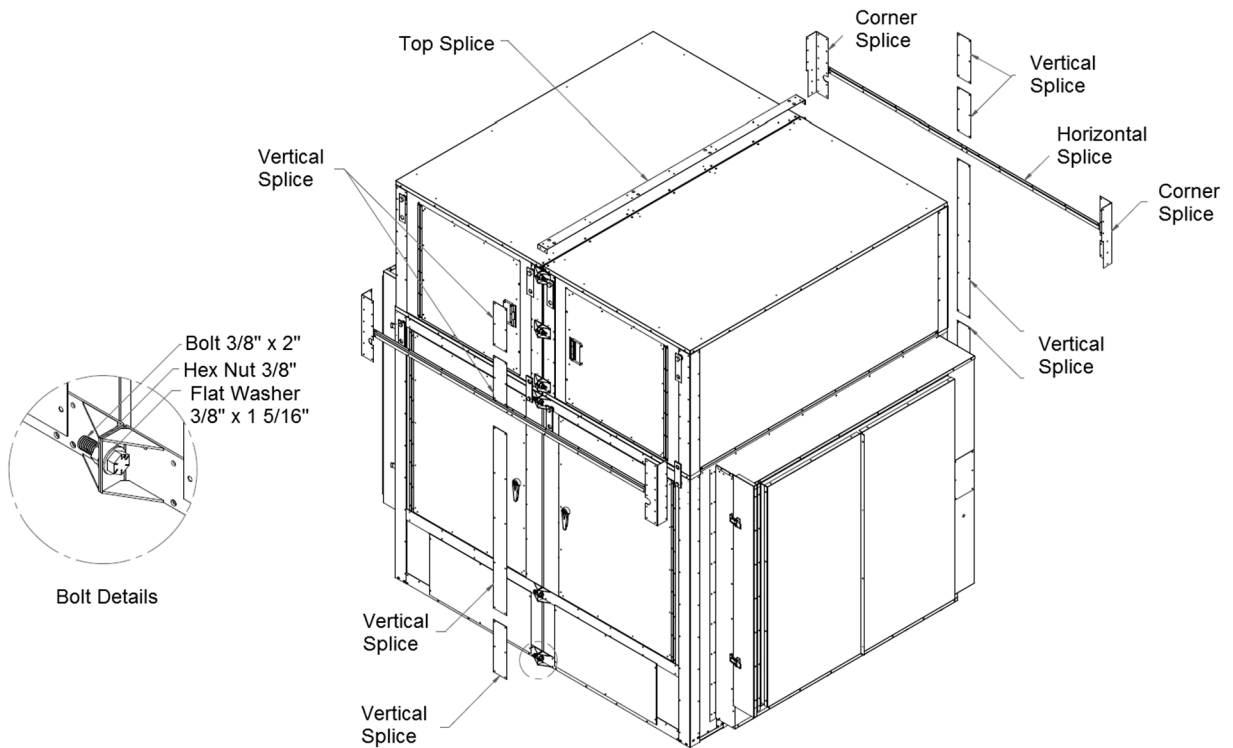
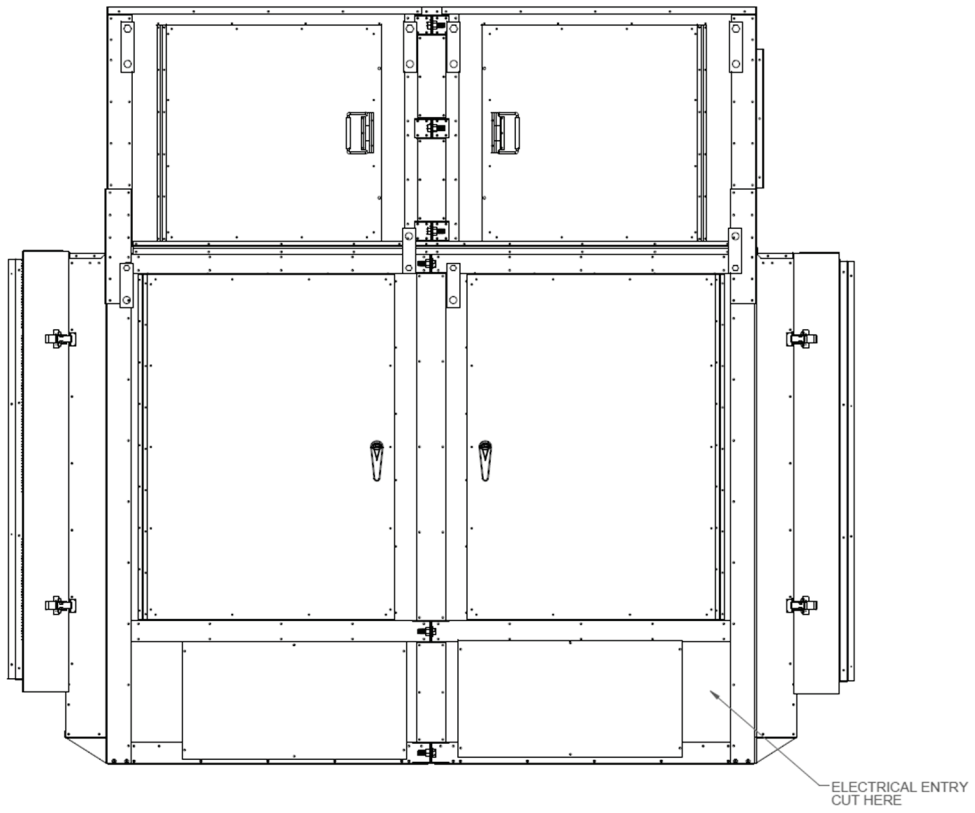

Figure 9 - Dual Unit Assembly Details
Figure 10 - Dual unit with splices after being bolted together.
to secure the coil sections together. See Figure 9.
5. For dual units, align the bolt holes of the fan sections, if they are shipped separated. Fan service access doors of each section should be on the same side of the complete unit. A crow-bar or similar tool can be used to line up the sections. Factory provided bolts can then be used to secure the fan sections together. See Figure 9.
6. For dual units, install horizontal, vertical and top splices, overlapping the fan and coil sections. Fasten splices with self-tapping #10 hex head screws. See Figure 9 and Figure 10. Single units (23-35 tons) do not require these splices. Only corner splices are required for single units.
7. Install corner splices, overlapping the fan and coil sections. Fasten splices with self-tapping #10 hex head screws. See Figure 9 and Figure 10.